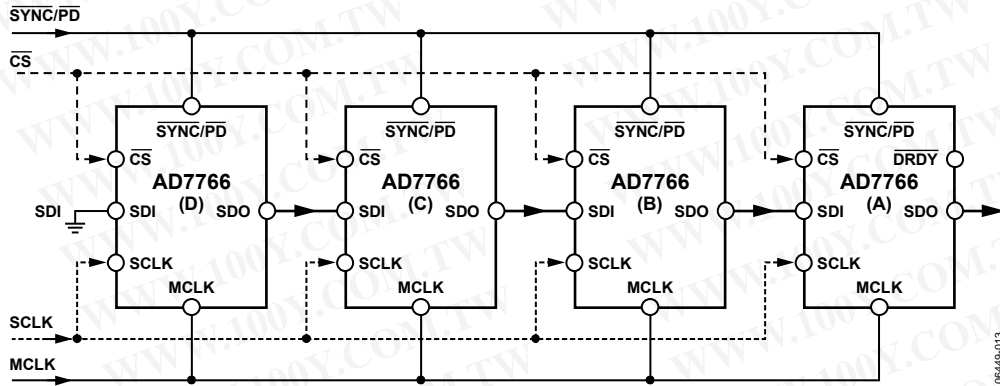
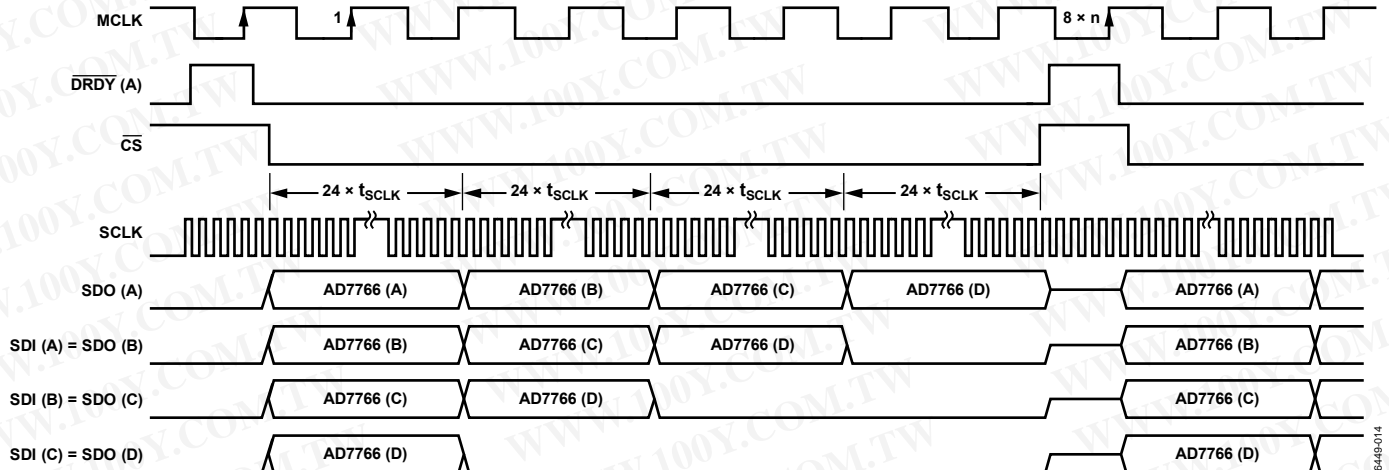
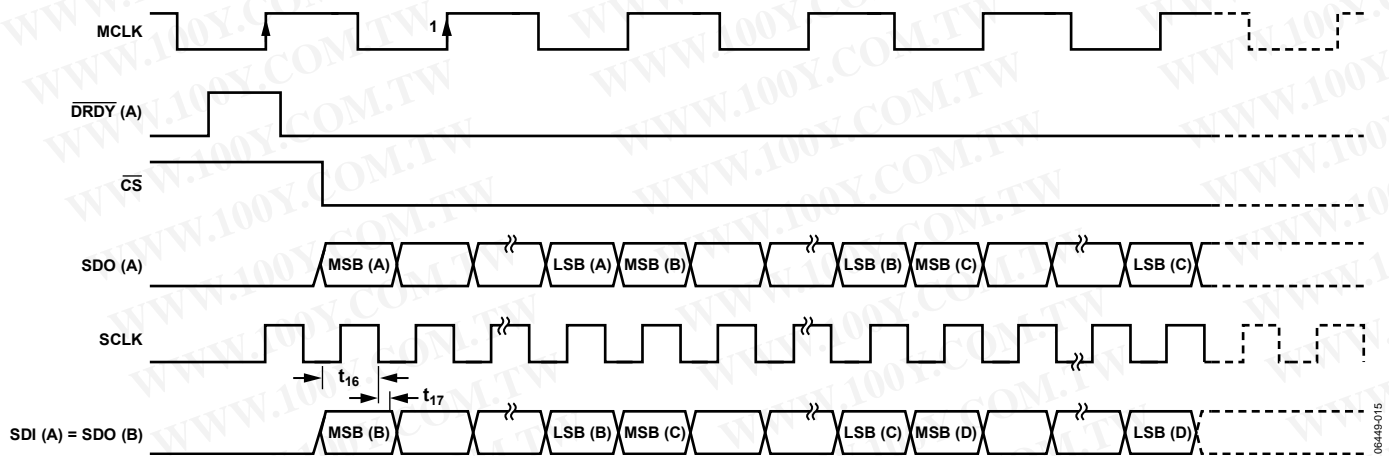

Figure 36. Daisy-Chain Configuration with Four AD7766 Devices
Figure 37. Daisy-Chain Timing Diagram ( $n = 1$  for AD7766,  $n = 2$  for AD7766-1,  $n = 4$  for AD7766-2) When Driving the AD7766
Figure 38. Daisy-Chain SDI Setup and Hold Timing
The block diagram in Figure 36 shows how devices must be connected to achieve daisy-chain functionality. The scheme shown operates by passing the output data of the SDO pin of an AD7766 device to the SDI input of the next AD7766 device in the chain. The data then continues through the chain until it is clocked onto the SDO pin of the first device in the chain.
An example of a daisy chain of four AD7766 devices is shown in Figure 36 and Figure 37. In the case illustrated in Figure 36, the output of the AD7766 labeled A is the output of the full daisy chain. The last device in the chain (the AD7766 labeled D) has its serial data input (SDI) pin connected to ground. All the devices in the chain must use common MCLK, SCLK,  $\overline{\text{CS}}$ , and SYNC/PD signals.
After applying a  $\overline{\text{SYNC/PD}}$  pulse to all the devices, there is a delay (as listed in Table 7) before valid conversion data appears at the output of the chain of devices. As shown in Figure 37, the first conversion result is output from the AD7766 device labeled A. This 24-bit conversion result is followed by the conversion results from the devices labeled B, C, and D, with all conversion results output in an MSB-first sequence. The stream of conversion results is clocked through each device in the chain and is eventually clocked onto the SDO pin of the AD7766 device labeled A. The conversion results of all the devices in the chain must be clocked onto the SDO pin of the final device in the chain while its DRDY signal is active low. This is illustrated in the examples shown (Figure 37 and Figure 38), where the conversion results from
As shown in Figure 37, the number of SCLK falling edges that occurs during the period when  $\overline{\text{DRDY}}$  (A) is active low must match the number of devices in the chain multiplied by 24 (the number of bits that must be clocked through onto SDO (A) for each device).